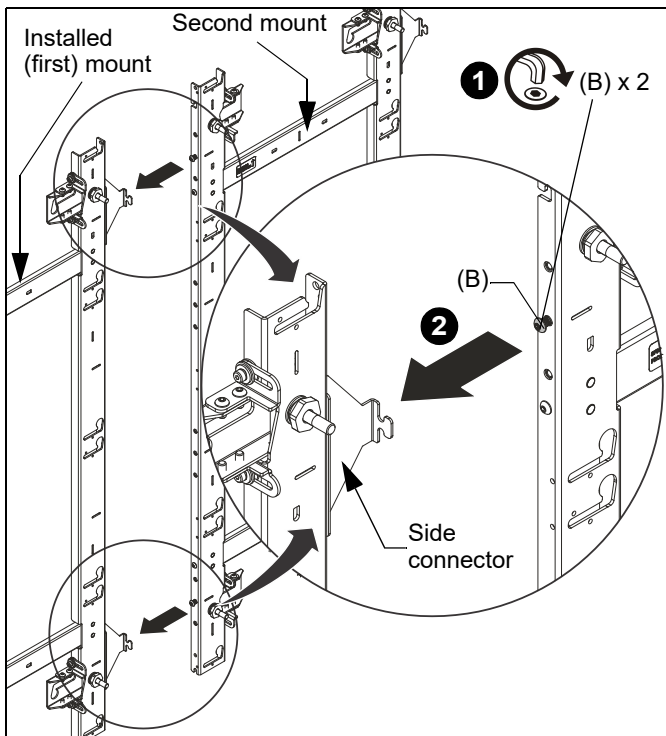

Figure 13
1. Loosely install two 1/4-20 x 1/2" button head cap screws (B) into the second mount (being added to the first mount). (See Figure 13)
2. Hang the mount by the installed screws (installed in Step 1) onto the side connectors on the first mount. (See Figure 13)